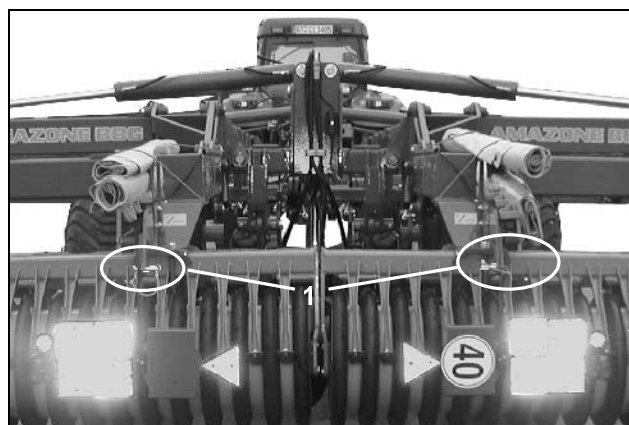

Fig. 38
- Swivel down the traffic light kit (Fig. 38) into the transport position, set with pins (Fig. 38/1) and secure.